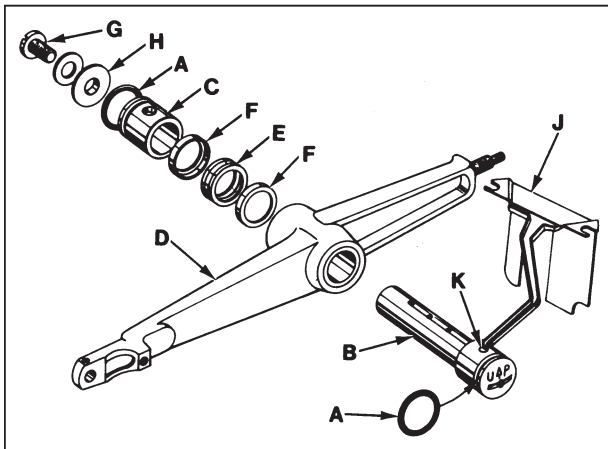

Fig 16
1. Install "O" rings (A, Fig. 16) onto needle lever stud (B) and thrust collar (C).
2. With needle lever (D) in machine and positioned properly; insert stud (B) through hole in needle lever until its shoulder contacts the needle lever and the word "UP" on stud is in the upright position. While making sure no binding exists in the needle bar link, secure stud (B) with the front set screw in top of machine bed.
3. Install temper load ring (E) and compression cups (F) onto stud (B), then push ring and cups through opening in machine bed.
4. Install thrust collar (C) onto stud (B) being careful not to damage "O" ring. Compress components together by tightening screw (G) until washer (H) bottoms against stud (B). Secure stud (B) in position using the rear set screw in top of bed.
5. To check temper load ring for proper compression, remove screw (G) from stud (B) and loosen rear set screw in top of bed. Thrust collar (C) should spring out .003 - .007 inch (.08 .18mm). Compress load ring in reverse order, then tighten rear set screw.
6. With indented "UP" on stud (B) in upright position, install bearing oiler (J) so its hook sets in oil supply hole (K) of stud. When hook and stud are secured in their proper positions, the proper amount of oil will be channeled to stud for lubricating needle lever (D).